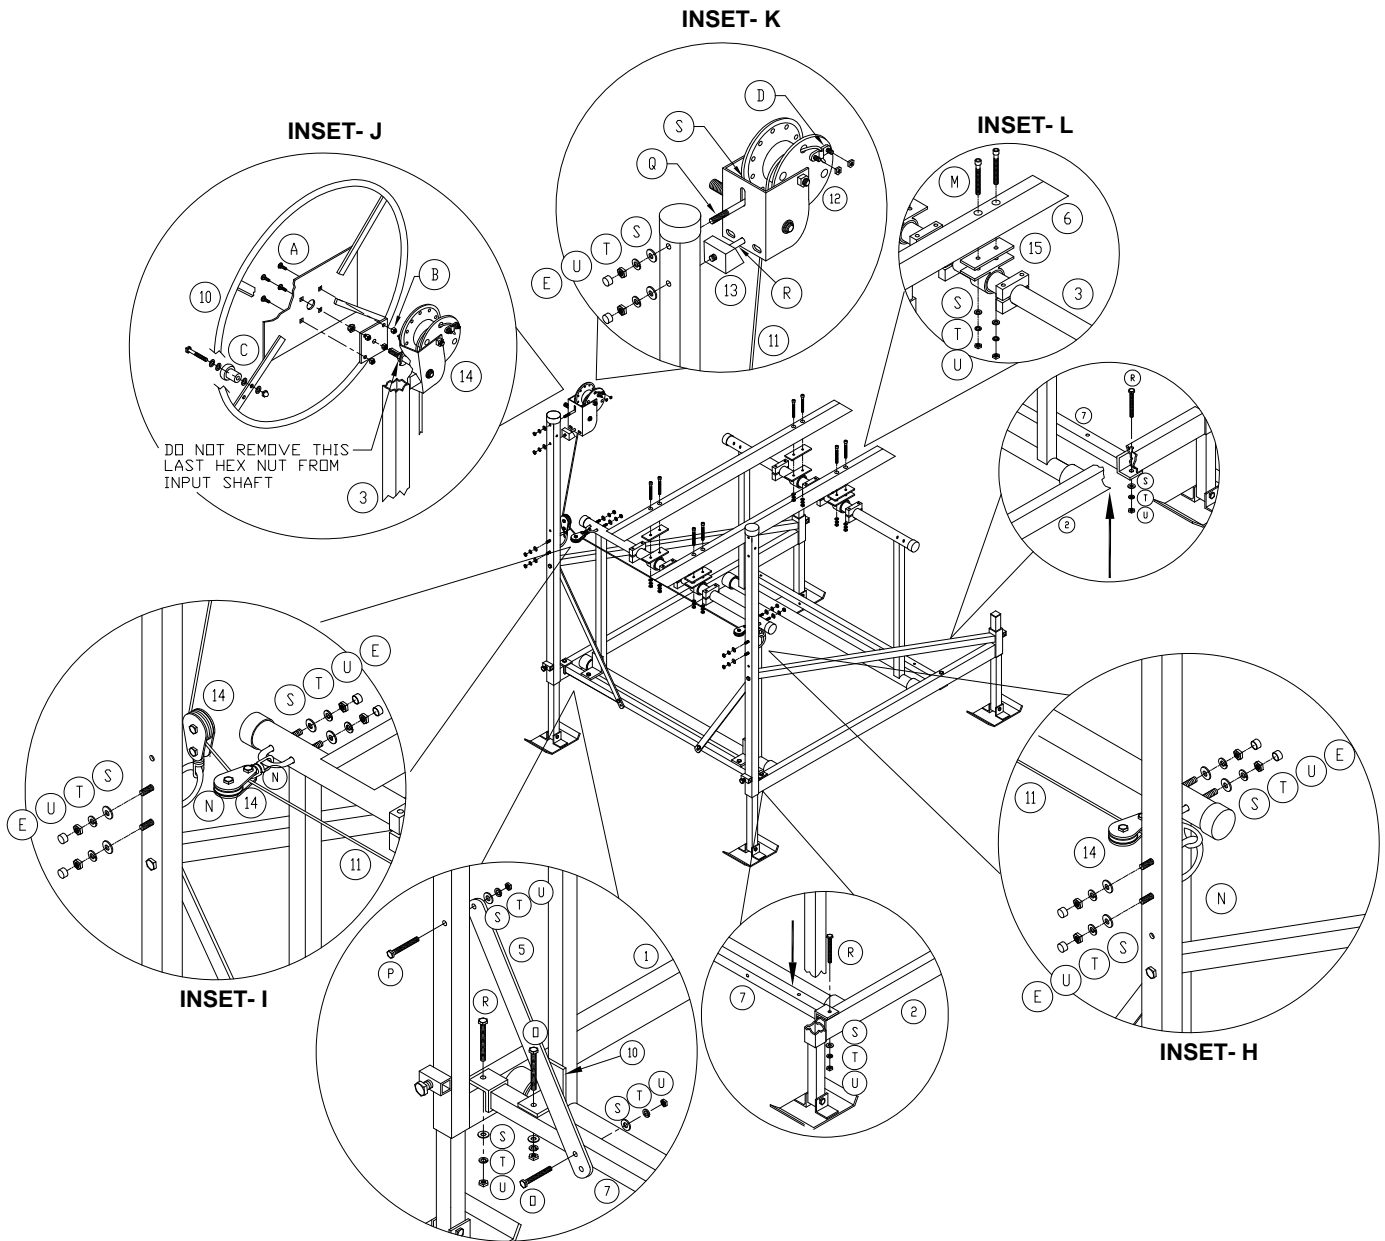

Figure 3-3.
1. Refer to **Figure 3-3**. If mounting winch on the right side of lift, install winch wedge between right-hand side assembly and winch as shown in **Inset K**.
3. Refer to **Figure 3-3**. Attach handwheel to winch adapter plate (pre-assembled on the winch input shaft).
4. Refer to **Inset J** of **Figure 3-3**. Attach the spinner knob to the handwheel using the preassembled hardware. Select the hole in the handwheel spoke that is most comfortable for lowering the lift.
1. Refer to **Figure 3-3**. Install polymer block on each side of the bow lifting arm assembly by inserting U-bolt through the swivel of the polymer block and attaching it to the lifting arm as shown in **Inset I**. Insure the U-bolts are angled downward when the lifting arm is in the upright position.
1. Refer to **Figure 3-3**. Install the wire rope clamp outside the drum flange as shown in **Inset K**. Do not tighten.
2. **Right Side Mounted Winch** – Refer to **Figure 3-3**. Feed the wire rope into the winch between winch frame and backside of drum. Continue reeving wire rope over drum, through hole in drum flange and under the wire rope clamp with one inch extending past the clamp as shown in **Inset K**. Tighten nuts on clamp to hold wire rope in place.
2. Refer to **Figure 3-3**. Attach wood bunks as shown in **Inset L**. Insure the spacer is installed between each bunk bearing assembly and wood bunk. Mount the bunks with carpeted seams facing each other and seam openings facing down.